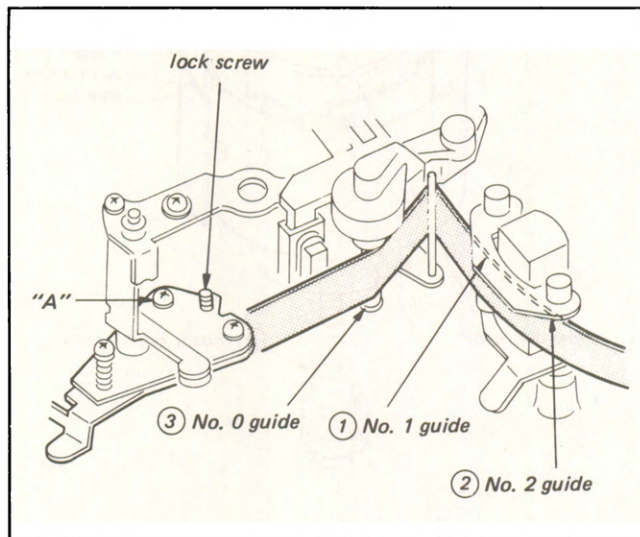

Fig. 3-12. Replacement and adjustment (2) of tension regulator arm plate assembly
3. Play back the 1 MHz segment of the alignment tape (KR5-1S). Loosen the lock screw and adjust screw "A" in Fig. 3-12 so that the RF waveform becomes that (see the waveform in the tape path adjustment, Section 3-20-1.) when the TRACKING knob is turned to the right and left from its center detent position and so that the tape is not apart from the flanges of guides (1), (2) and (3) shown in Fig. 3-12 and there is not a large tape curl at the guides.